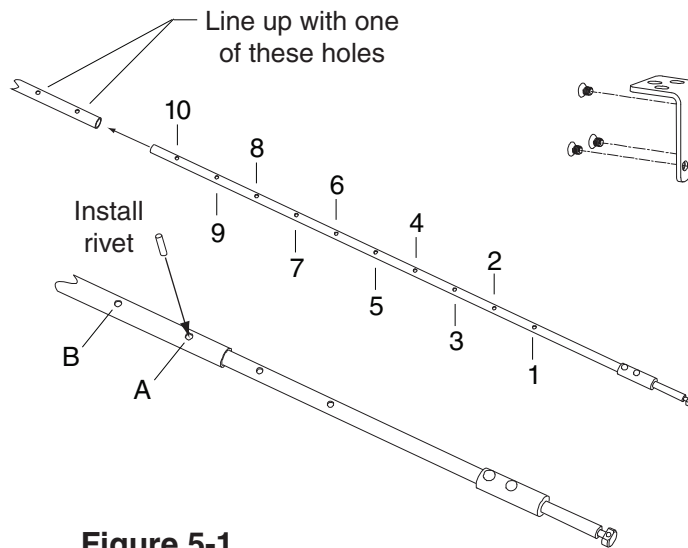

Figure 5-1
- Rivet two-piece top rod together. Align holes according to door height (Figure 5-1). Rod length for a 7-foot door is approximately 38 1/2". Top rod sections are longer than bottom rod sections.